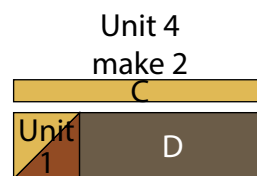

Fig. 6
4. Sew (1) Unit 1 square to the left end of (1) 9" x $3\frac{1}{2}$ " Fabric D strip. Sew (1) 12" x $1\frac{1}{2}$ " Fabric C strip to the top of the newly sewn block to make (1) Unit 4 strip (Fig. 6). Repeat to make a second Unit 4 strip.